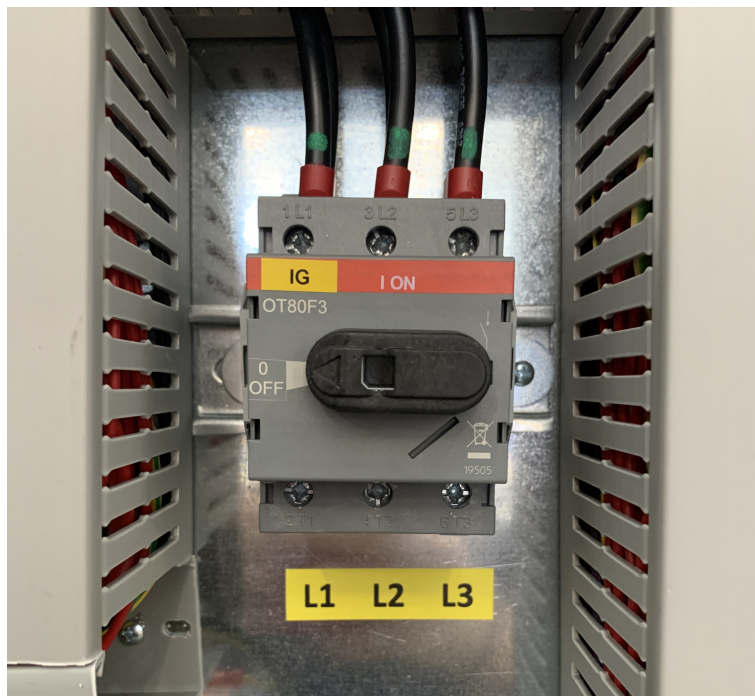

Figure 6
- 2- Connect L1 L2 L3 to the disconnecting switch as indicated in figure 6.